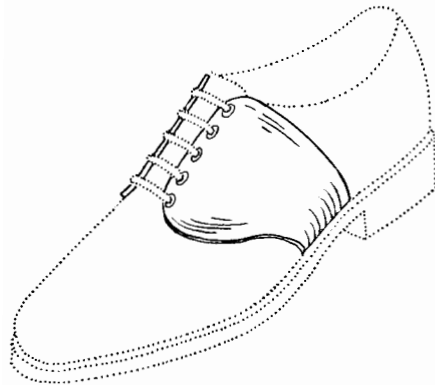

Fig. 20. Shoe saddles.
**Saddles.** The saddles on a shoe are to the front of the quarters what foxing is to the back of them. They are merely another form of trimming. Saddles extend upward from both sides of the sole, over the instep to the lacing. They are either extra pieces stitched over the tops of the quarters, or they replace pieces of equal size and shape cut from the quarters. Very often they are cut from leather of a different color, and are an ornament rather than an added support for the instep (Fig. 20).